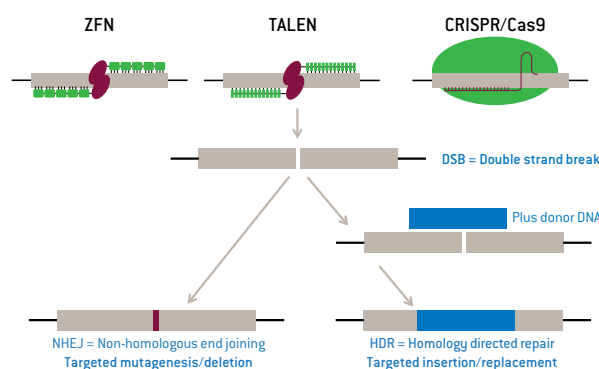

Figure 2. Sequence-specific induction of a double-strand break and subsequent repair processes (simplified scheme).
Zinc finger (ZF) proteins are the most abundant and versatile DNA binding motif in nature⁹. An individual zinc finger domain binds 3 DNA base pairs. Because of their modular structure, they provide an ideal framework for designing an artificial sequence-specific binding molecule. This can be fused to an endonuclease which together mediate sequence-specific cleavage. Since its first proof-of-principle in 1996 by Kim *et al.*¹⁰, ZFN-based genome editing technology has further evolved. The current generation of ZFNs utilizes 5 to 6 ZF domains, which recognize a genomic DNA stretch of 15-18 bp and are fused to Fok I nuclease. Two such zinc finger-nuclease fusion proteins work in combination to bind the sense and antisense strand of the targeted DNA sequence (Figure 2). Once both partners have bound, the FokI nuclease can form an active dimer and induce the double-strand break that leads to subsequent cellular repair processes. Since ZFNs target a total of 30-36 bp they provide a highly specific genome editing tool.
In 2009 transcriptional activator-like effectors (TALEs) were discovered to provide a simpler, modular DNA recognition code^{11, 12}. TALEs are naturally occurring proteins from the plant pathogenic bacteria genus *Xanthomonas*, and contain DNA-binding repeats, each recognizing a single base pair. Compared to the triplet-based DNA binding of zinc fingers, this single base recognition mode of TALE-DNA binding repeats enables greater flexibility in design but also holds some cloning challenges. Thus, except for the binding mode, the principle of targeting is very similar. Again sequence-specific, engineered TALEs are typically fused to FokI nuclease* to build the TALE-nuclease fusion (TALEN). As with ZFNs, a pair of TALENs must be generated for each target with each monomer binding 13 or more base pairs on the sense or antisense strand of the targeted DNA (Figure 2).
Clustered regulatory interspaced short palindromic repeats (CRISPRs), discovered in 1987 in *E. coli*, were recently shown to provide an even simpler genome editing tool^{13, 14, 15, 16}. The CRISPR pathway is part of the bacterial immune system to defend against invading viruses. This system has been adapted for use in eukaryotic cells. The specificity is driven by a so-called "guide RNA", which typically binds to a complementary stretch of 18-20 base pairs in the targeted DNA (Figure 2) and has some additional sequence motifs that help in forming a complex with the Cas9 nuclease (CRISPR-associated